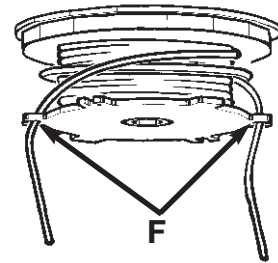

Fig. 11
6. Lock each end of line into a slot (F) on opposite sides of the spool (Figure 11).